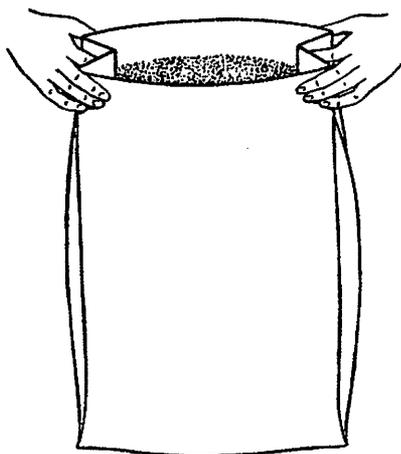

Figure No. 14A
- A. After bag is filled, weighed, and ready for closing, the operator should first re-form gussets. (See Figure No. 14A.)